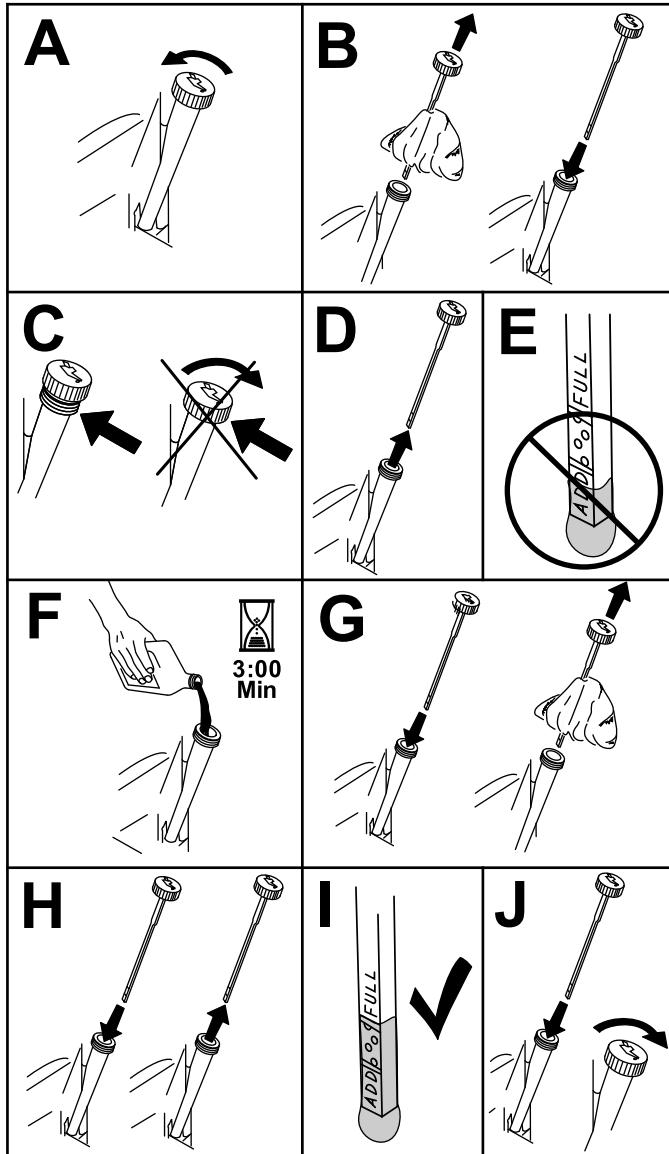

Figure 40
- Check the engine-oil level as shown in (Figure 40).